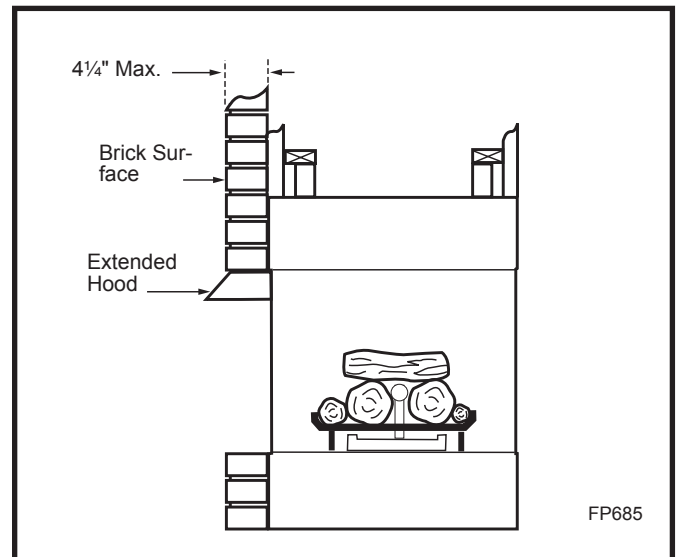

Fig. 13 Side view of firebox with extended hood.
**WARNING: When the black surround is covered by a brick surface, (Fig. 13), use an extended hood. The hood should extend out to the brick surface (Refer to Figs. 13 and 14) and be attached to the firebox. The maximum brick to noncombustible surface that may extend out past the black surround surface is 4¼".**